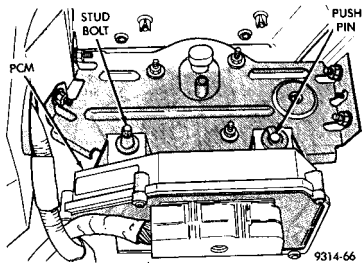

Fig 4
2. Remove stud bolt and push pin attaching SBEC to body (Fig. 4). The push pin has a center lock (shaft). Pull center lock up to remove pin.